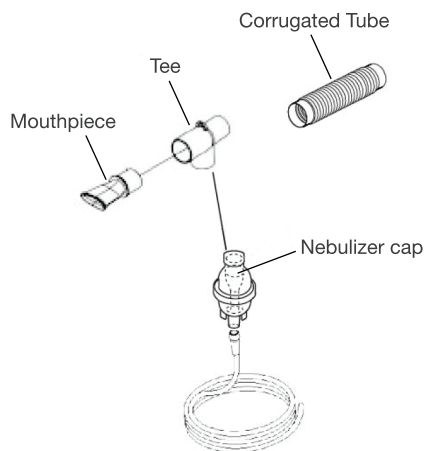

Figure 5
8. If using the mouthpiece, firmly attach it into one end of the tee. The corrugated tube should be attached to the opposite end of the tee. Then attach the remaining end of the tee to the nebulizer cap. The cap is designed to fit tightly (Figure 5).